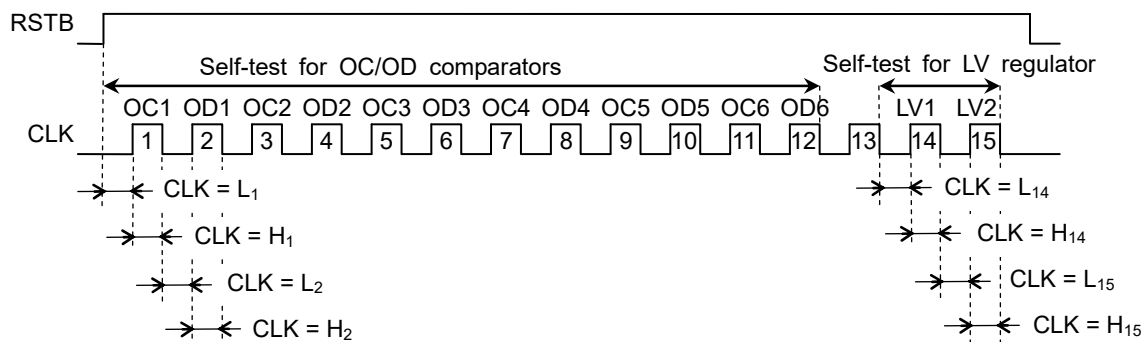

Figure 16
- 14th and 15th clocks : Performs abnormal high voltage and low voltage diagnostics for the LV regulator (Refer to **Figure 16**)